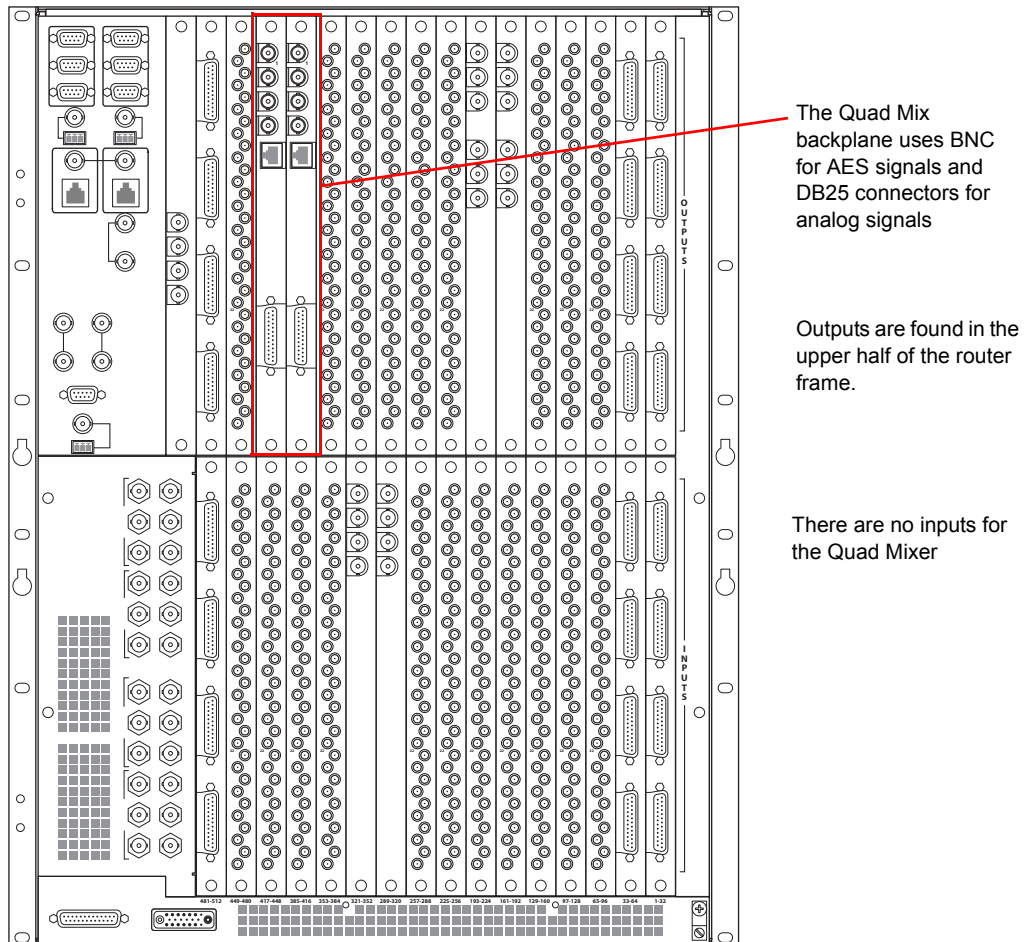

Figure 2-13. BNC and DB25 Connectors on Quad Mix Backplane (Rear View)
- 1 Locate the Quad Mix output connections at the rear of the router, as shown in Figure 2-13. Outputs are located in the upper half of the router frame. The exact location of the backplanes and corresponding connectors may be different depending on your router configuration.